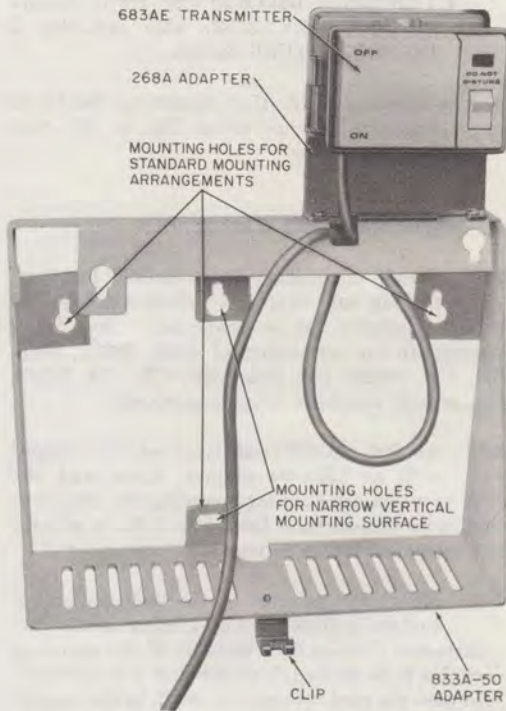
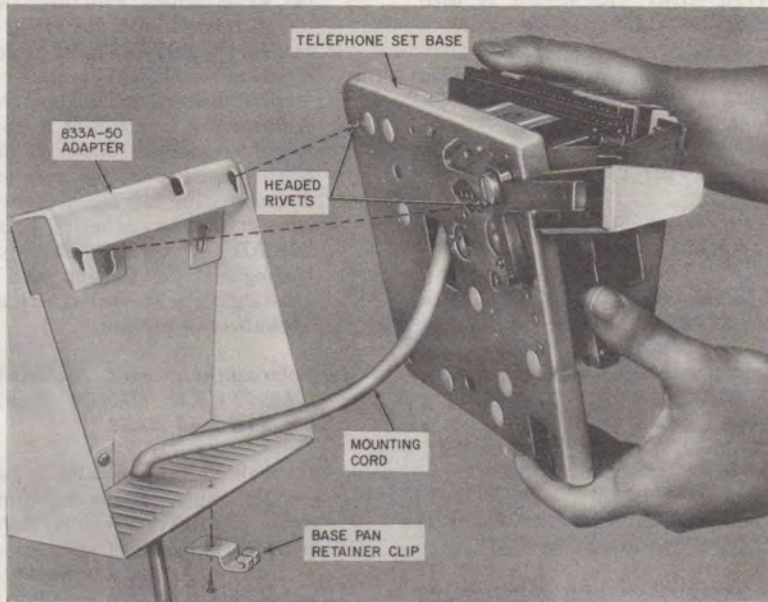

Fig. 4—833A-50 Adapter With 268A Adapter and 683AE Transmitter
Fig. 5—Mounting Telephone Set Base onto 833A-50 Adapter
**3.02** All DM and EM (wall type) sets are shipped with an 833A-50 adapter, screw, and clip (Fig. 4) which are used for mounting the telephone set to a vertical surface. Install the 833A-50 adapter and telephone set as follows.
(1) Mount the adapter to the wall or vertical surface as shown in Fig. 4, using appropriate fasteners (Section 080-720-105). If the mounting cord is to be dressed down the wall, it is necessary to pass the cord through the notch in the adapter before final attachment of the adapter to the wall (Fig. 5). If the cabling enters through the wall, the mounting cord may be contained within the adapter.
(2) Remove faceplate and housing from telephone set.
(3) Hang the telephone set on the adapter from the headed rivets that protrude from the base pan (Fig. 5).
(4) Secure the telephone set base with the clip and screws at the bottom of the adapter (Fig. 4).
(5) Install the telephone set options (see paragraph 3.04).
(6) Replace housing and faceplate.
- (1) If feature is to be added to DM- or EM-type set, a 268A adapter must be used as follows:
- (a) Mount 268A adapter onto 833A-50 adapter with two screws as shown on Fig. 4 with the tabs of the 268A adapter facing outward from the vertical surface. The 683AE-50 transmitter is secured by sliding the transmitter downward between the tabs on the adapter. The telephone set end of the transmitter cord enters the telephone set and is attached to the telephone set base at the small notch on the top edge of the base panel. The excess cord is stored in the 833A-50 adapter.
- (2) For B, BM or C, CM (desk type) sets, the transmitter cord will enter at the rear of the set.
- (3) Refer to Table K for connections.
- (4) Also included with the 683AE transmitter (furnished with the HFAI feature) is a manual DO-NOT-DISTURB switch. Depression of the switch (Fig. 4) prevents voice signaling, alerting tone and activation of the microphone. A distinctive tone is sent to any station that is calling another station on **dial intercom** when the called station does not want to be disturbed. The only signal that can be received by a station or answering position with the DO-NOT-DISTURB switch activated are tone ringing and the alerting tone and one way voice signaling associated with an **automatic signaling intercom**.